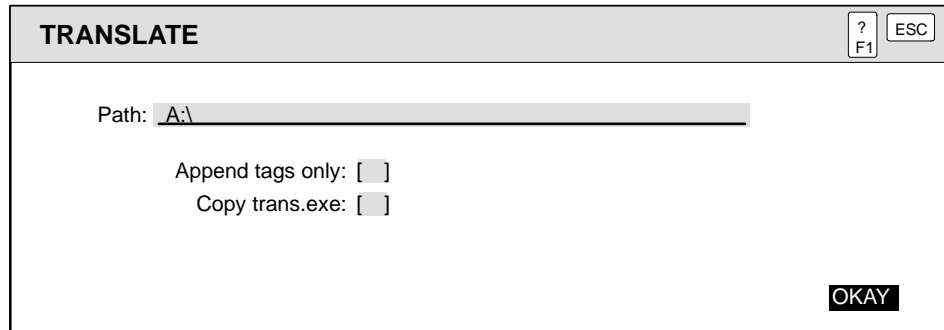

Figure 8-8 Offline Tag Translation to OSx
2. Press L or use the **OPTs** icon to select **Translate**. Figure 8-8 shows an example dialog box.